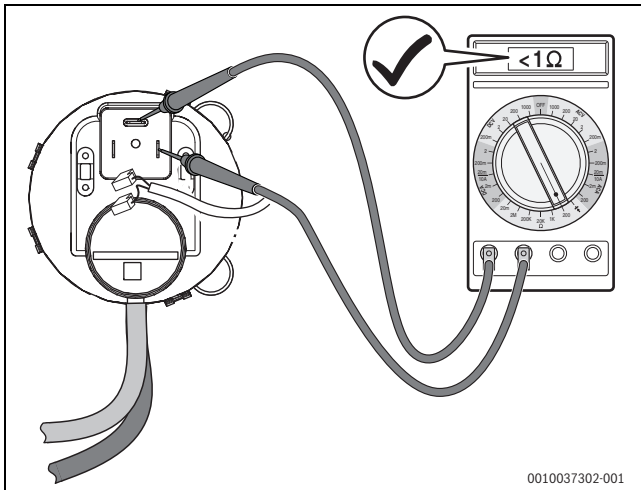

Fig. 86 Test the continuity of the differential pressure switch (differential pressure switch ok)
- ▶ Pull off power cables at the differential pressure switch and measure the resistance across the contacts (→ Fig. 86).